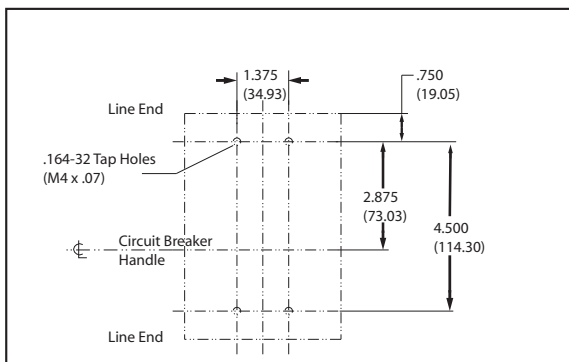

Fig. 2-1 MCP, HMCP and HMCPs Mounting Bolt Drilling Plans
- For individual mounting panels, make sure that mounting panel is predrilled using drilling plan (Fig. 2-1).